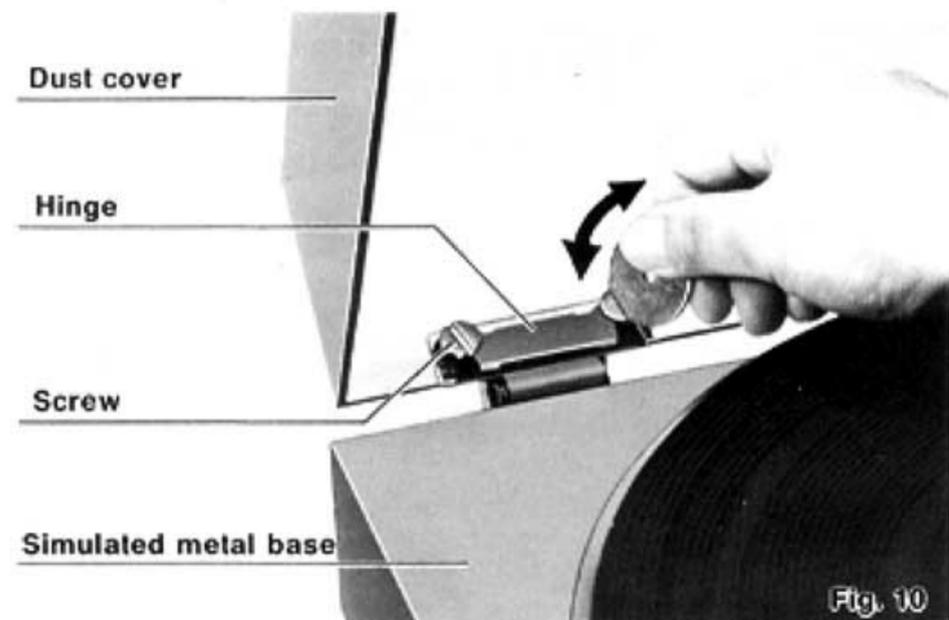

Fig. 10
*Re-tighten the screws securely. (See Fig. 10)